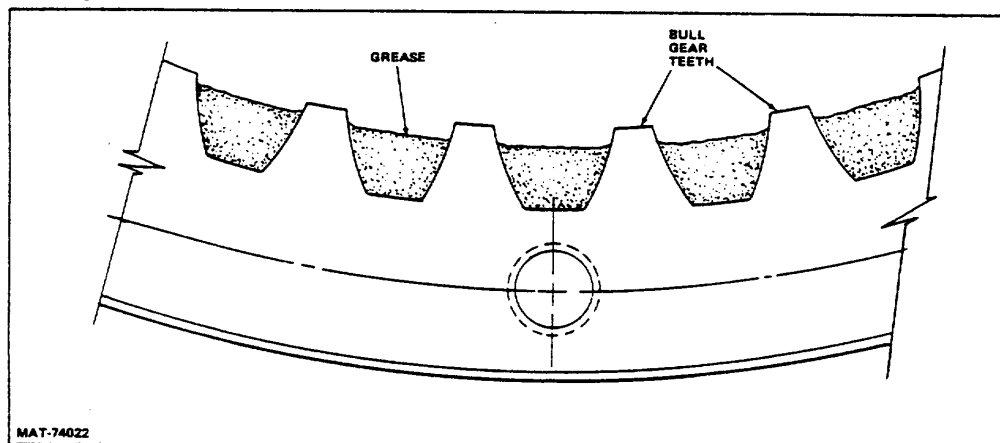

Figure 7-4. Lubricating Bull Gear
5. Lubricate bull gear with specified grease. Fill all spaces between the bull gear teeth with specified grease' to approximately 3/4 the height of the teeth (Fig 7-4). Then carefully install drive wheel on wheel spindle.